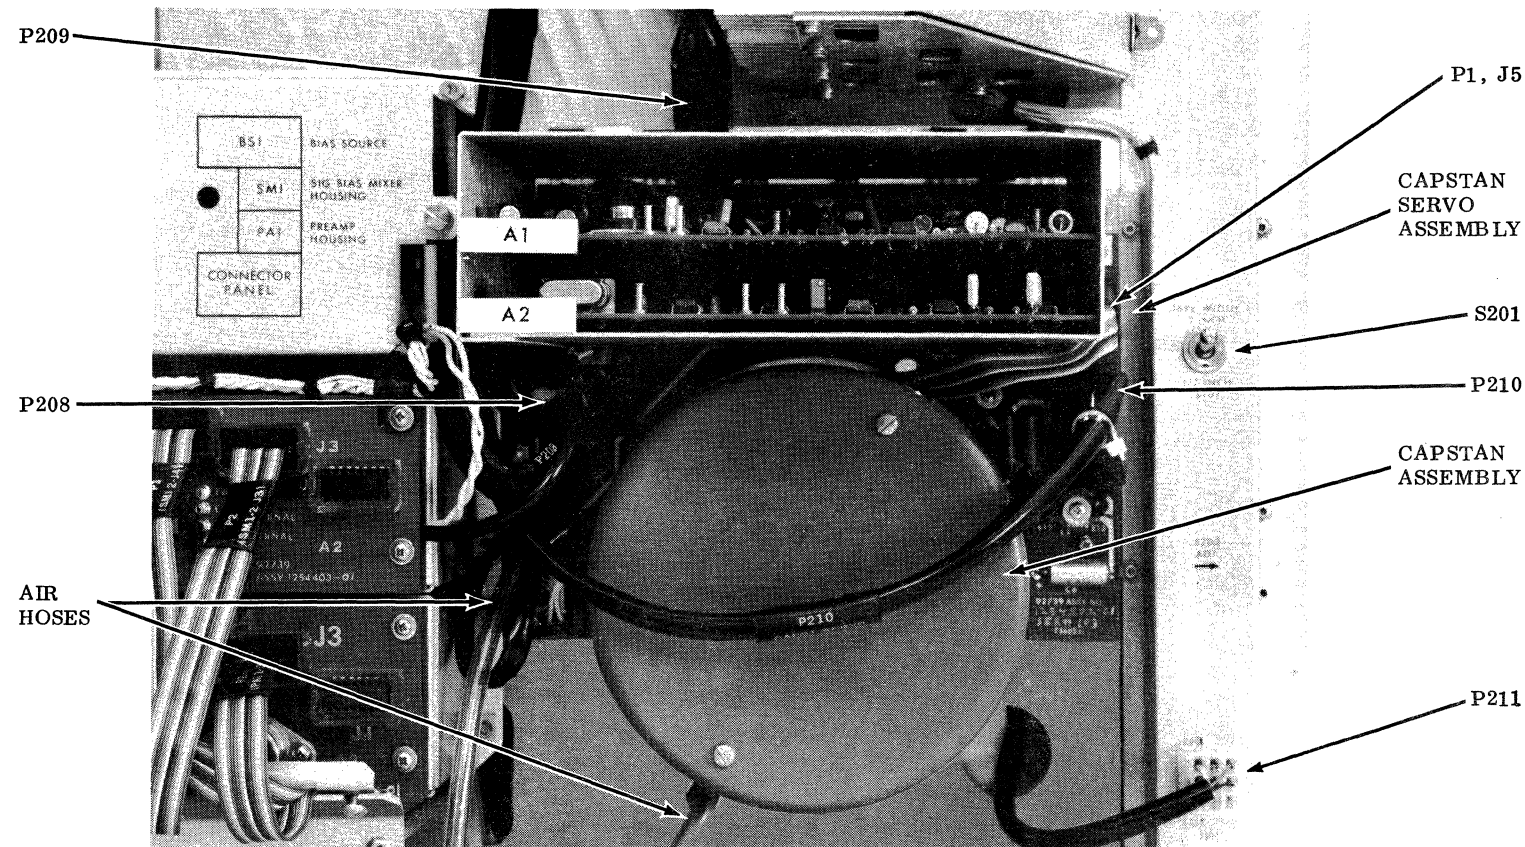

Figure 11-7. Back of Capstan Servo Assembly
To remove the complete capstan servo assembly, proceed as follows. See Figure 11-7.
- a. Turn off main power (CB501). Unplug P1 from J5 of the capstan servo assembly. (See Figure 11-7.) Disconnect the capstan motor power leads from J1, J2, and J7. (These are quick disconnects adjacent to P208. See Figure 11-7.)